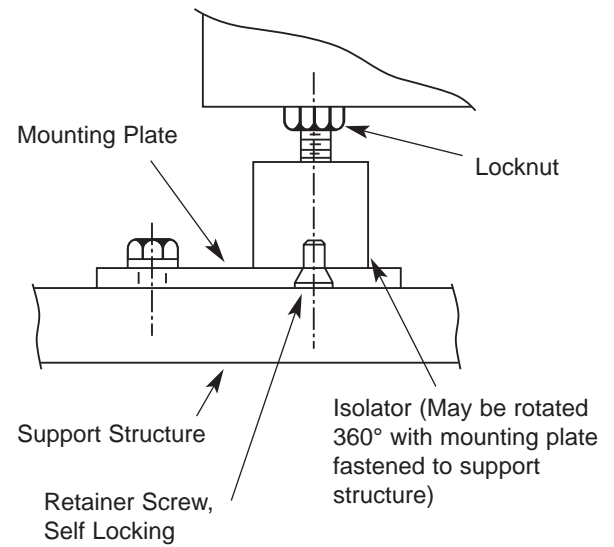

Figure 3 - EB-A Isolator
The discharge location may be adjusted as follows, referring to Figure 3.
1. Attach a stroke gauge (available from Riley Automation Ltd on the cross arm, as shown in Figure 3 as close to the spring stack as practical.